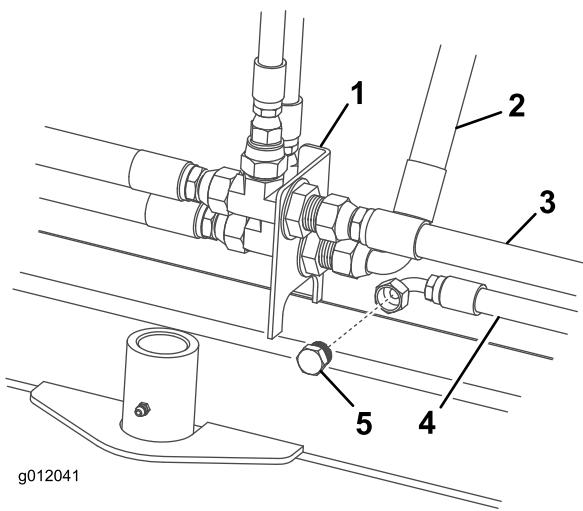

Figure 14
3. Route and connect the traction unit hoses (Figure 14 and Figure 15) to the broom bulkhead fittings as follows: